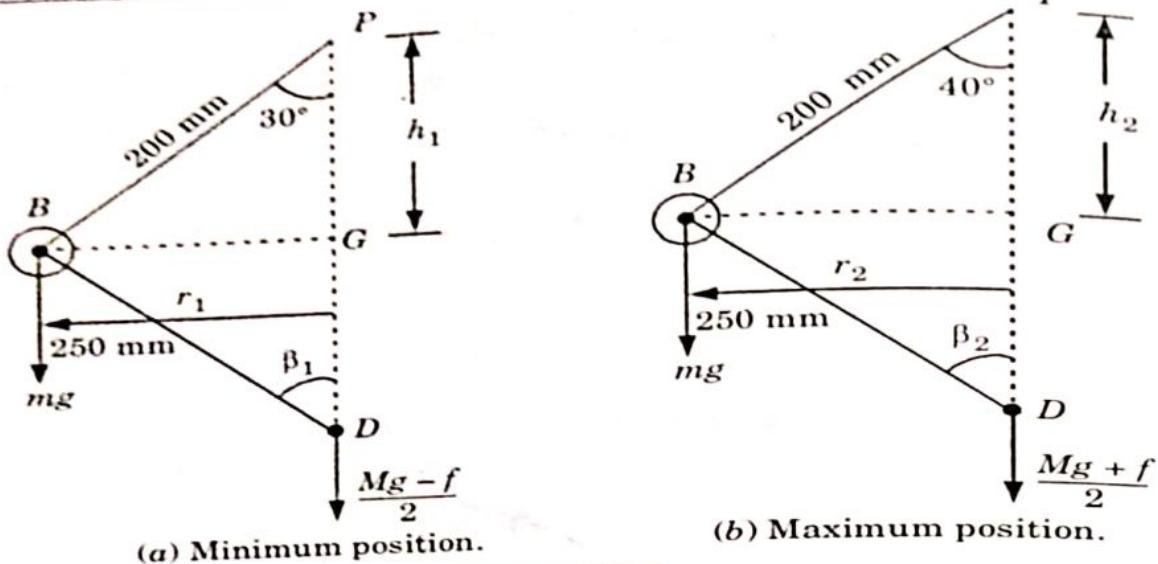

Fig. 4.19.1.
1. From Fig. 4.19.1(a), the minimum radius of rotation of ball,
6. From Fig. 4.19.1(b), the maximum radius of rotation,